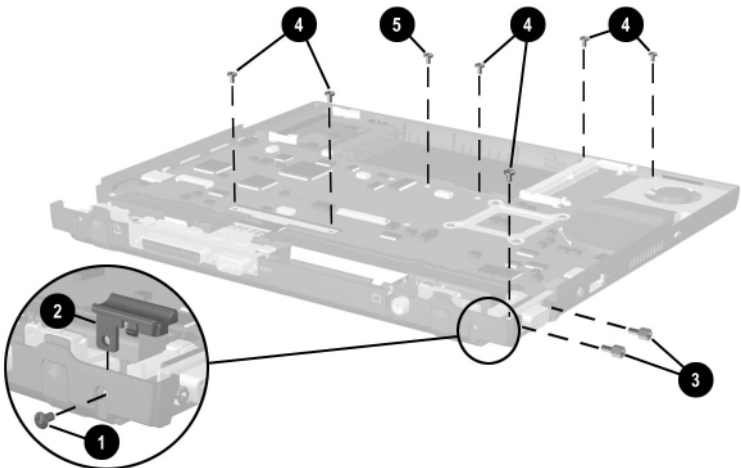

Figure 5-31. Removing the System Board Screws and Screwlocks
8. Remove the TM2.0 × 6.0 screw ❶ that secures the left display support to the base enclosure (Figure 5-31).